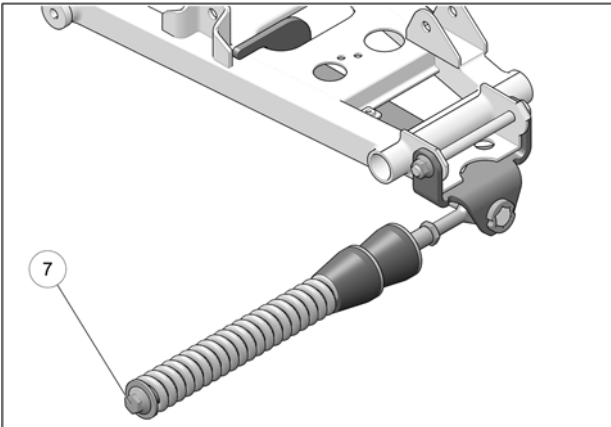

Fig. 11
11. Verify that spring assembly bolt (7) is tightened to the recommended torque specification: 75 N•m [55 lb•ft]. Refer to Fig. 11